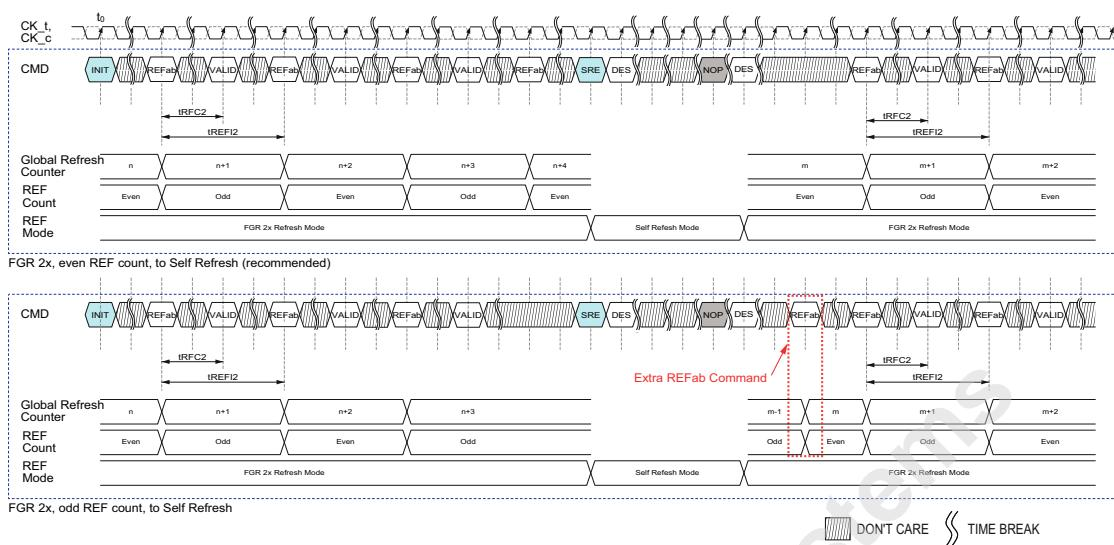

Figure 71 — FGR 2x to SREF Command Timing
2. If performing REFab commands in FGR mode, it is recommended that there should be an even number of REFab commands before entry into Self Refresh since the last Self Refresh exit or MRW command that set the FGR mode. If this condition is met, no additional refresh commands are required upon Self Refresh exit. If this condition is not met, one extra REFab command is required to be issued to the DDR5 SDRAM upon Self Refresh exit. This extra Refresh command is not counted toward the computation of the average refresh interval ( $t_{REFI2}$ ). This extra Refresh counts toward the maximum number of refreshes which may be postponed. Refer to **Clause 4.9** for more information. See **Figure 71**.